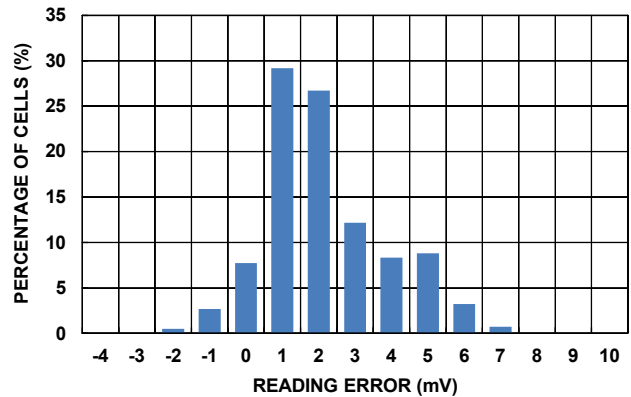

FIGURE 8. CELL READING ERROR FROM EVALUATION BOARDS AT CELL VOLTAGE FROM 2.6V TO 4.0V, AND -20 °C TO +60 °C HISTOGRAM
- Stresses may be induced in the ISL78610 during soldering or other high temperature events that affect measurement accuracy. Initial accuracy does not include effects due to this. See Figure 8 on page 16 for cell reading accuracy obtained after soldering to Renesas evaluation boards. When soldering the ISL78610 to a customized circuit board with a layout or construction significantly differing from the Renesas evaluation board, design verification tests should be applied to determine drift due to soldering and over lifetime.